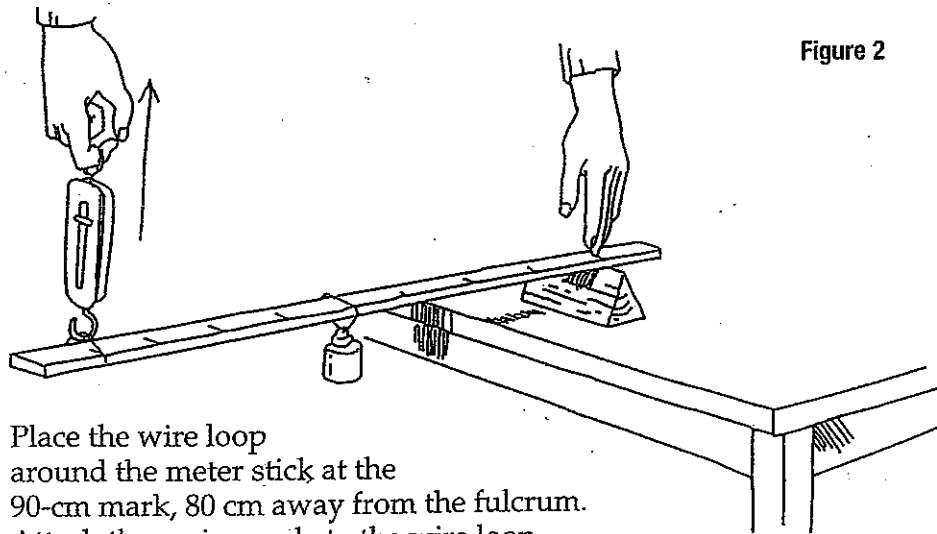

Figure 2
10. To make a second-class lever, place the 10-cm mark of the meter stick on the fulcrum as shown in Figure 2. Tie the mass to the meter stick at the 50-cm mark.